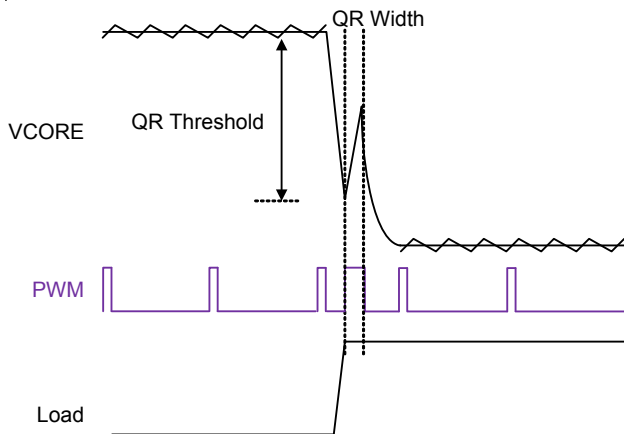
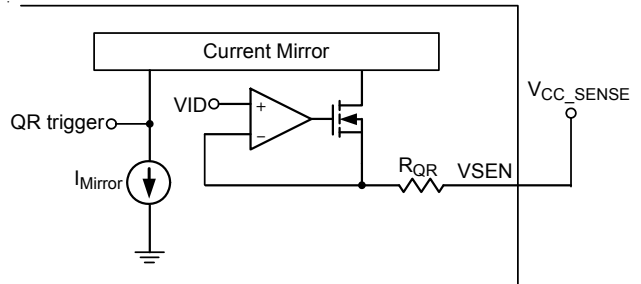

Figure 13. Quick Response Mechanism
Figure 14. Simplified QR Trigger Schematic
**Quick Response (QR) Mechanism**
When the transient load step-up becomes quite large, it is difficult for loop response to meet the energy transfer. Hence, that output voltage generate undershoot to fail specification. The RT8175A has Quick Response (QR) mechanism being able to help improve this issue. It adopts a nonlinear control mechanism which can enlarge the on time of PWM signal at instantaneous step-up transient load to restrain the output voltage drooping, Figure 13 shows the QR behavior.
The output voltage signal behavior needs to be detected so that QR mechanism can be triggered. The output voltage signal is via a remote sense line to connect at VSEN pin that is shown in Figure 14. The QR mechanism needs to set QR width and QR threshold. Both definitions are shown in Figure 13. A proper QR mechanism set can meet different applications. The SET2 pin is a multi-function pin which can set QR threshold, QR width and ICCMAX.